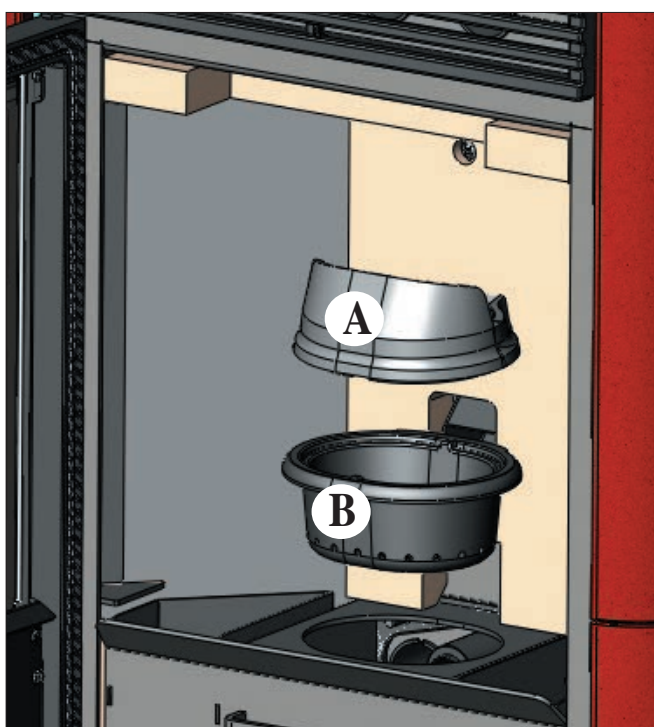

fig. 1
After normal cleaning, **INCORRECT** attachment of the upper part of the crucible (A) (fig. 1) with the lower part of the crucible (B) (fig. 1) can compromise stove functioning.